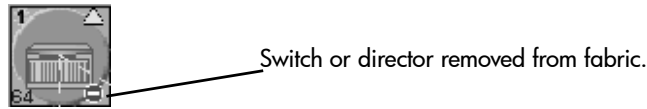

Figure 54: Icon display when switch or director removed from fabric
- A minus sign (-) displays in the lower right corner of the product's icon if the switch or director was removed. Figure 54 illustrates the icon when a fabric element is removed.